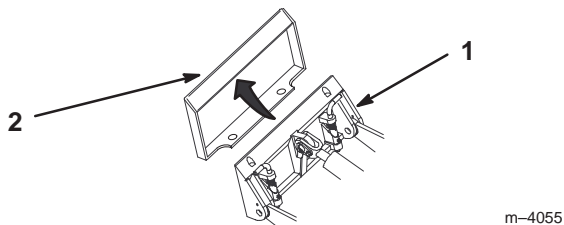

Figure 19
4. Position mount plate into the upper lip of the attachment receiver plate (Fig. 19).